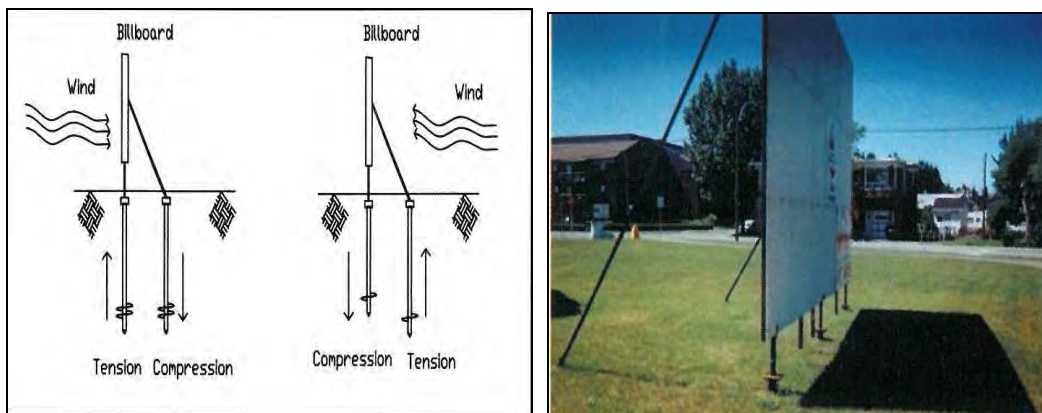

Figure 4: Drill Piles for Billboard
- Advertisement Signboard as shown in **Figure 4**